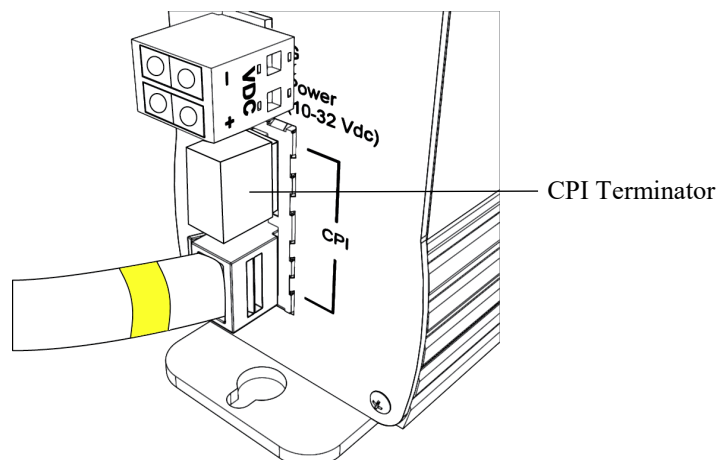

FIGURE 6-6. CPI Terminator Placement
5. Place the CPI terminator (supplied in CPI Network Kit) in the remaining open **CPI** port (FIGURE 6-6).